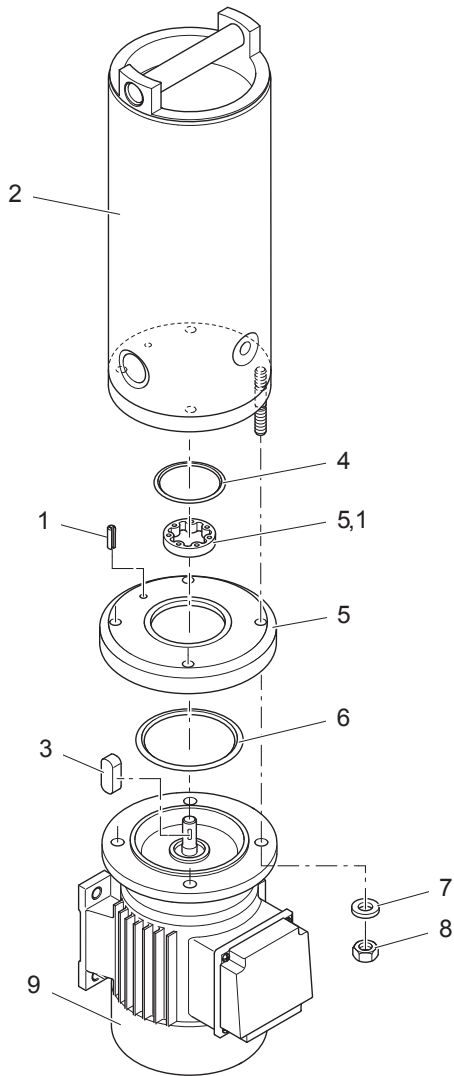
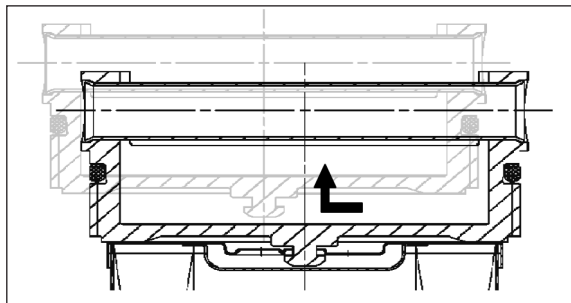

Fig. 5: Exploded view of the off-line filter unit
Fig. 6: Releasing the fixture at the cover / filter element
- › Always replace the O-rings (4, 6, fig. 5) by new spare parts when changing the pump / motor. (Order-no. see spare parts list from page 30 on).
1. Attach the motor (9) to the corresponding brackets (see assembly kit page 13).
2. Insert outer and inner rotor (5.1) into the corresponding section of the pump plate (5) (in any position).
4. Fit the pre-assembled pump plate (5, 5.1, 4, 6) onto the motor (9).
5. Insert the key (3) of the motor shaft into one of the four key grooves of the inner rotor.
6. During assembly, make sure that the O-ring (6) is seated in the O-ring groove and is not squeezed between the motor and the pump plate.
7. The hole for the roll pin (1) must be opposite the terminal box on the motor.
9. Reassemble the "filter tube with housing" module (2) with the pump plate and the motor.
10. When mounting the filter tube, make sure that the O-ring (4) is seated in the O-ring groove and is not squeezed between the pump plate (5) and the housing (2).
Follow the steps below to change the filter element (see also Fig. 5 and Fig. 6):
6. Release the filter element from the cover by moving it as shown in Fig. 6.